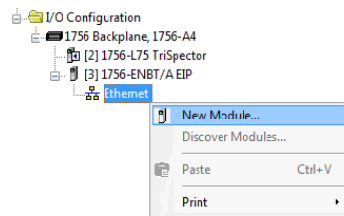

Figure 55: Open New Module window.
1. Select **Ethernet** under the communication interface 1756-ENBT/A in Studio 5000 and click **New Module** to open the module selection window, see figure 55.